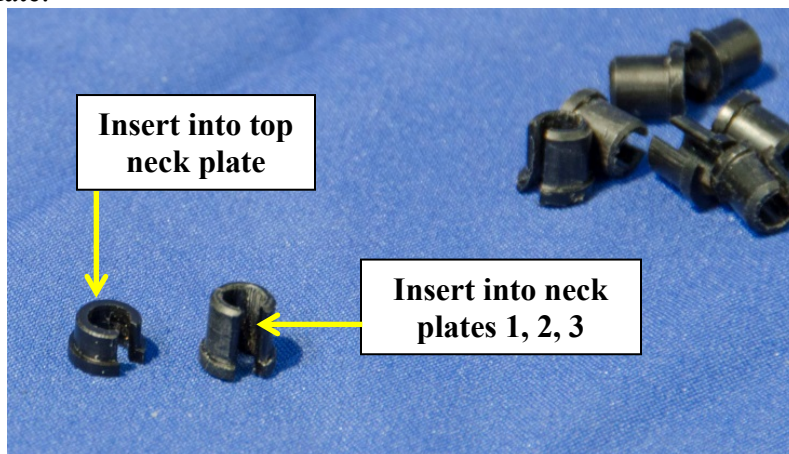

Figure 4-19. Neck cable guides
- 4.2.2.9 There are nine cable guides in the neck (Figure 4-19). Eight of the guides are 7.9 mm long (472-2105) which fit into neck plates 1, 2, and the two neck plate 3 locations. Install the other 4.7 mm long cable guide (472-2106) into the neck top plate.